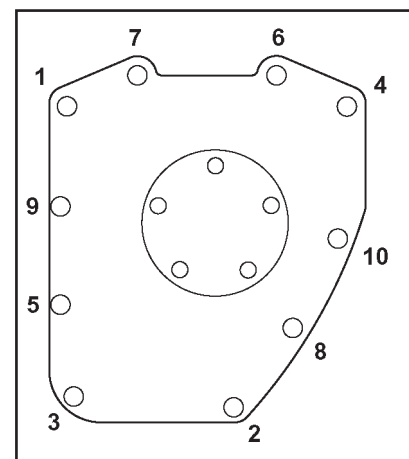

Figure 6
- R. Use a new gasket and install cam cover. Tighten cover bolts to 90-120 in-lbs. torque in sequence shown. **See Figure 6.**